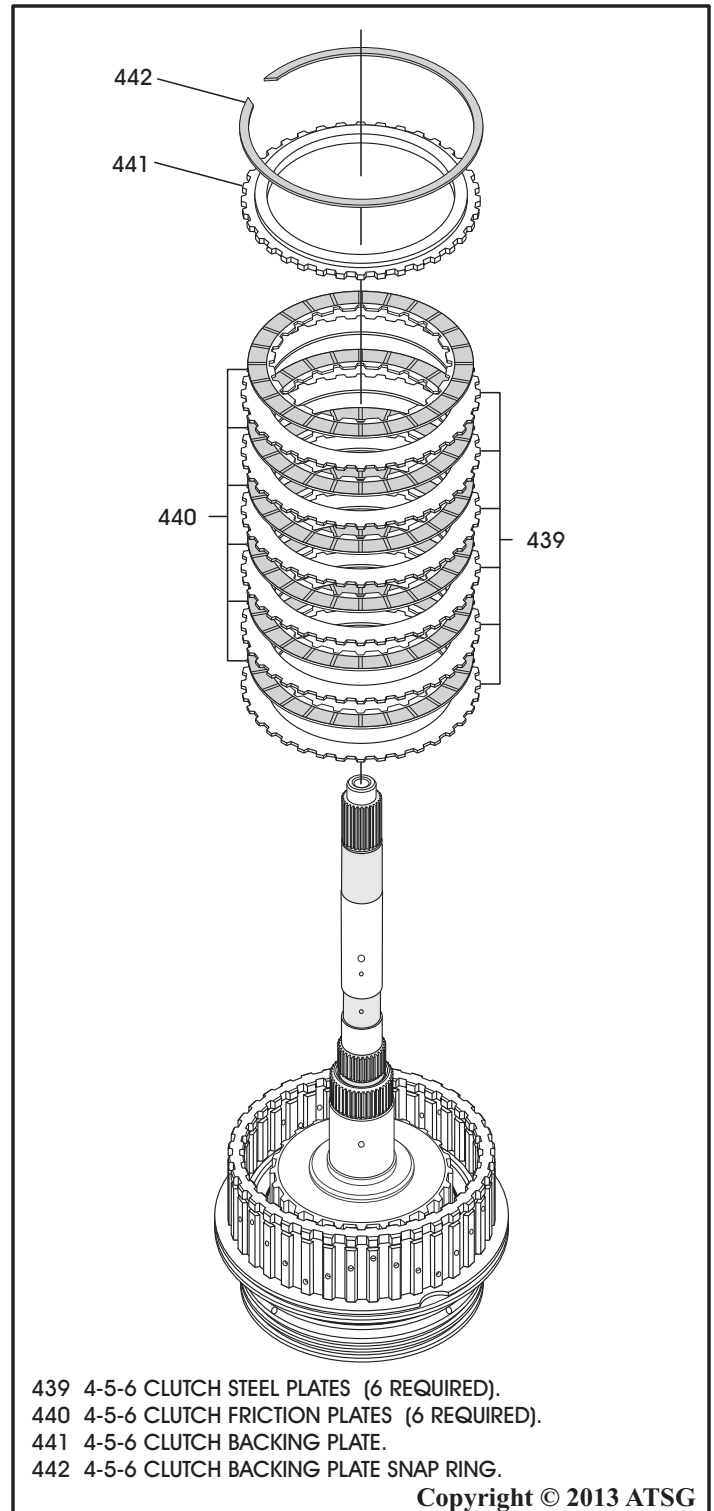

Figure 144
17. Remove the 4-5-6 clutch backing plate snap ring, as shown in Figure 144.
18. Remove the 4-5-6 clutch backing plate and the friction and steel plates, as shown in Figure 144.